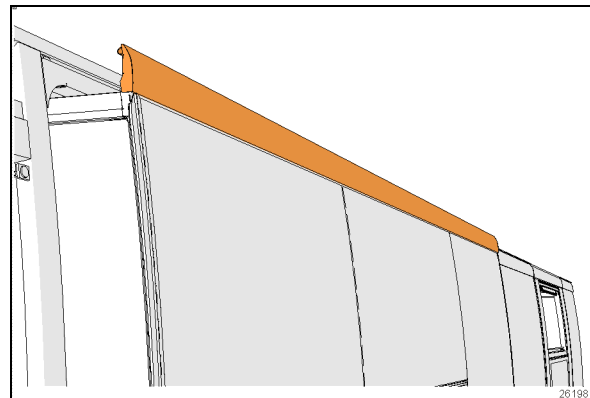
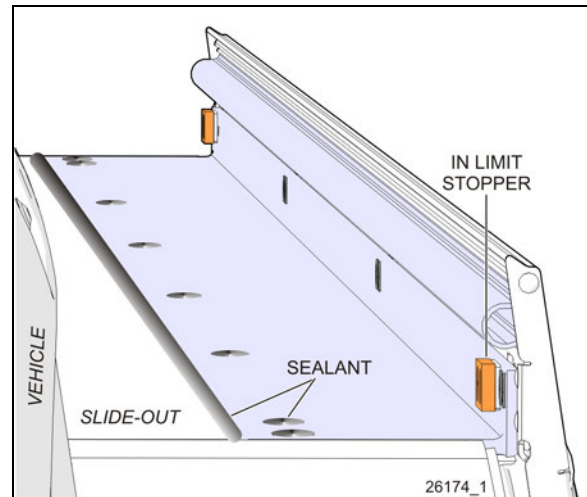

FIGURE 18 TOP EXTRUSION
FIGURE 30: EXTERIOR EXTRUSION
2. Turn the ignition to the off position. Using the manual override procedure (Paragraph 5), extend the slide-out a few inches so the exterior extrusion screws located on the top of the slide-out are accessible from outside (Figure 30).
7. Using a knife, cut the sealant between the Top extrusion and the roof. (Figure 18, Figure 30)
8. Remove the screws holding the top extrusion to the room structure. (Figure 18)
- Once completed, use the manual override procedure to extend the slide-out and reinstall the exterior extrusion. Apply appropriate sealant on the exterior extrusion screws and between the extrusion, the roof and the edges to prevent water infiltration (Figure 30).